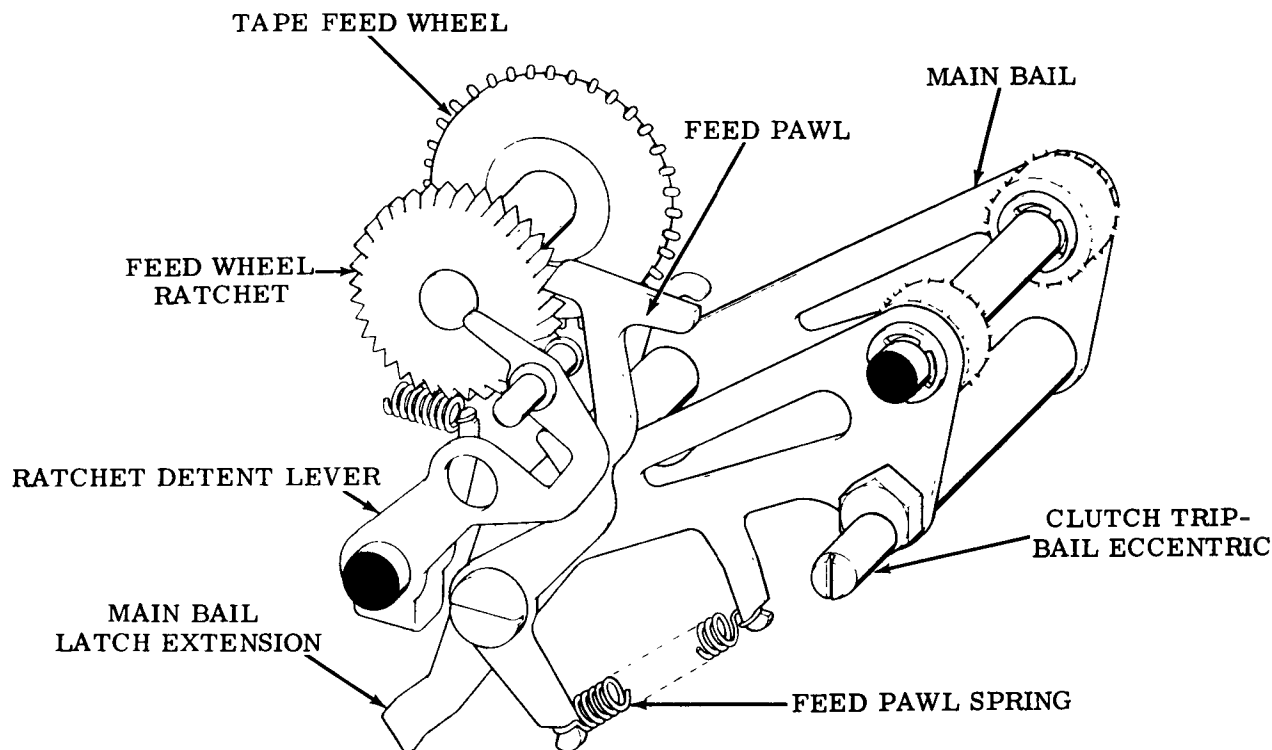

Figure 10 - Tape Feed Mechanism (Rear View)
4.04 First, the main bail raises the feed pawl (Figure 10) one tooth on the feed wheel ratchet. Secondly, the main bail permits the sensing pins to rise to read the perforations in the tape. If any of the sensing pins sense a perforation in the tape they extend upward through the perforations until stopped by the spacer on the main bail, and in extending upward rotate their associated transfer levers up.